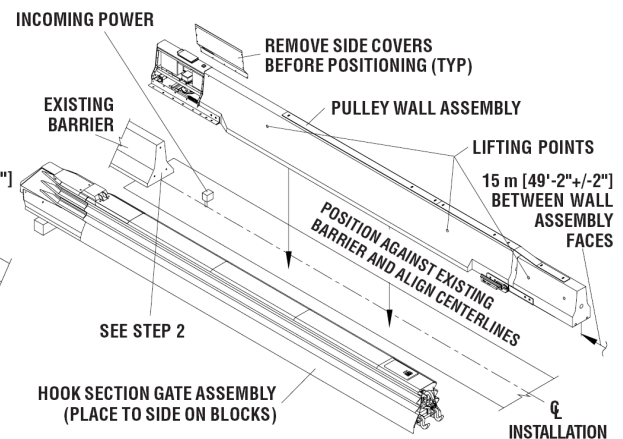

Figure 6
2. Position the wall assemblies (Figure 6).